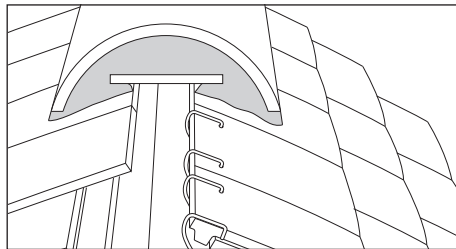

Fig. 15 – Mechanical fixing of top course concrete plain tiles using spring clips
- 3 Either drive a nail into the batten to secure a galvanised security ridge wire, or drill a hole – 100mm from the open end – and secure the ridge using a 75mm stainless steel screw (Fig. 15).
- 1 Use a single course with 200mm long eaves/top tile mechanically fixed with special stainless steel spring clip (Fig. 15) (Code 30332).